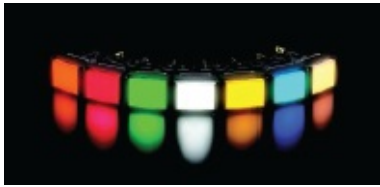

Figure 4-12 Illuminated pushbutton operators.
- **Illuminated** pushbutton operator units (Figure 4-12) are used as a visual aid for operators and users in industrial or commercial control applications. Often, a light-emitting diodes (LED) is integrated into the pushbutton operator to provide the desired illumination.